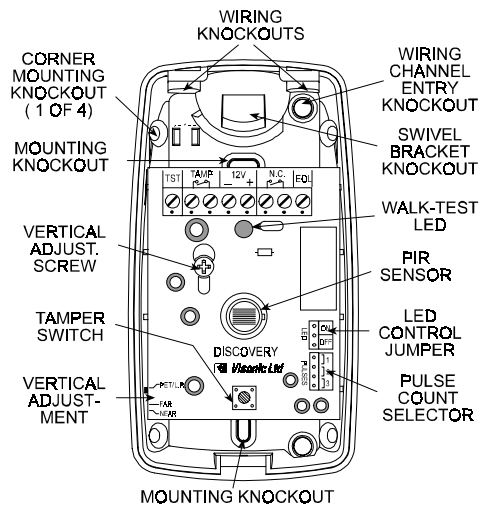
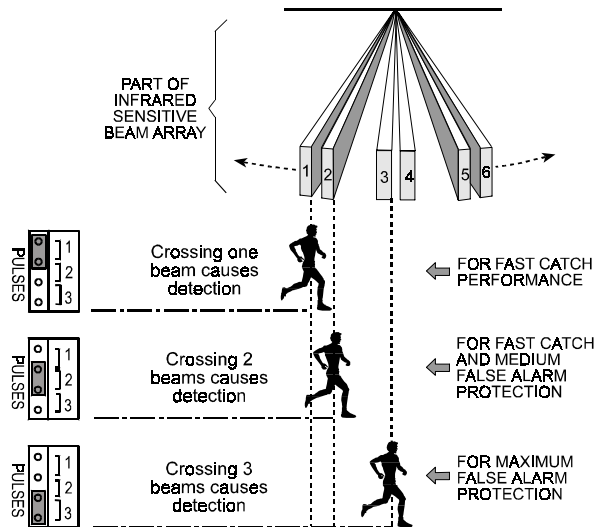

Figure 5. Inside View
Figure 14. Pulse Counter Setting Options
D. Refer to Figure 5 and punch out the mounting knockouts at the rear wall of the base (for surface mounting) or mounting knockouts at the angled sides of the base (for corner mounting).
- E. Punch out any one of the wiring knockouts shown in Figure 5.
The location of the pulse count selector is indicated in Figure 5. Refer to Figure 14 below and mount the jumper as desired.